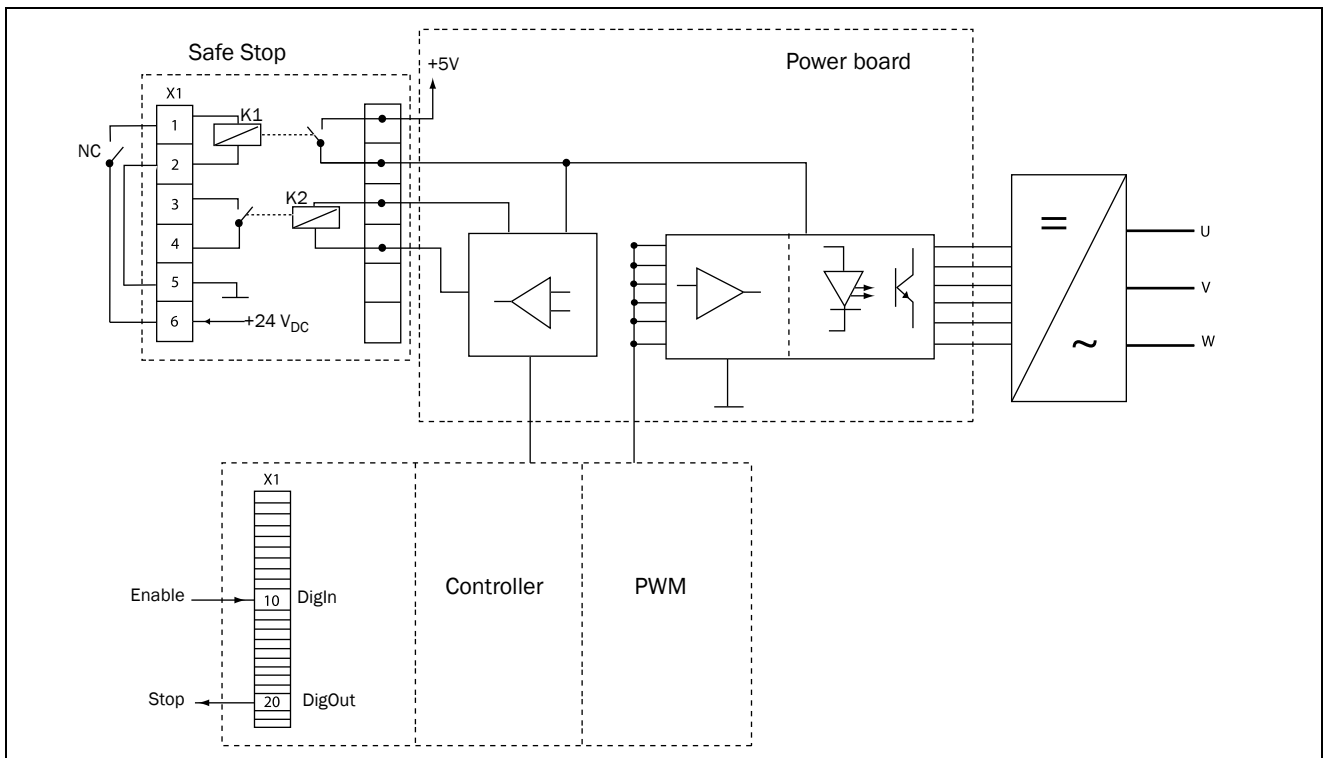

Fig. 152 Safe Stop connection
- "Inhibit" input, terminals 1 (DC+) and 2 (DC-) on the Safe Stop option board should be made active by connecting 24 V_{DC} to secure the supply voltage for the driver circuits of the power conductors via safety relay K1. See also Fig. 152.
- High signal on the digital input, e.g. terminal 10 in Fig. 152, which is set to "Enable". For setting the digital input please refer to "11.5.2 Digital Inputs [520]" on page 159.